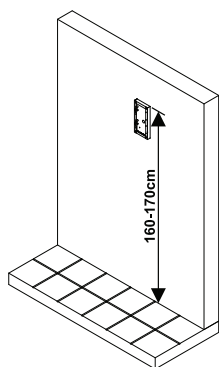
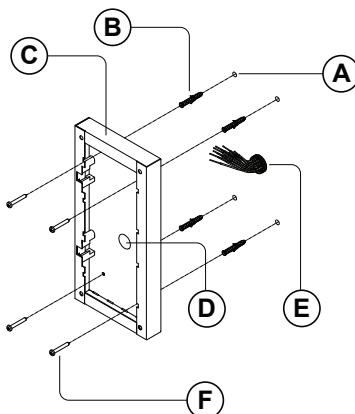

Fig. 47
Fig. 48
1. Place the surface box against the wall (165-170cm between the top of the box and the floor level as shown in **Fig.47**) and mark the fixing holes **(A)** for the wall plugs **(B)** and the hole for the cables **(E)** (**Fig.48**). Observe the orientation of the box with the hinge mount **(M)** on the left;
2. As shown in **Fig.48**, drill the fixing holes **(A)** , insert the wall plugs **(B)** and feed the cables **(E)** through the surface box opening **(D)** , fix the surface box **(C)** to the wall using the screws **(F)** ;